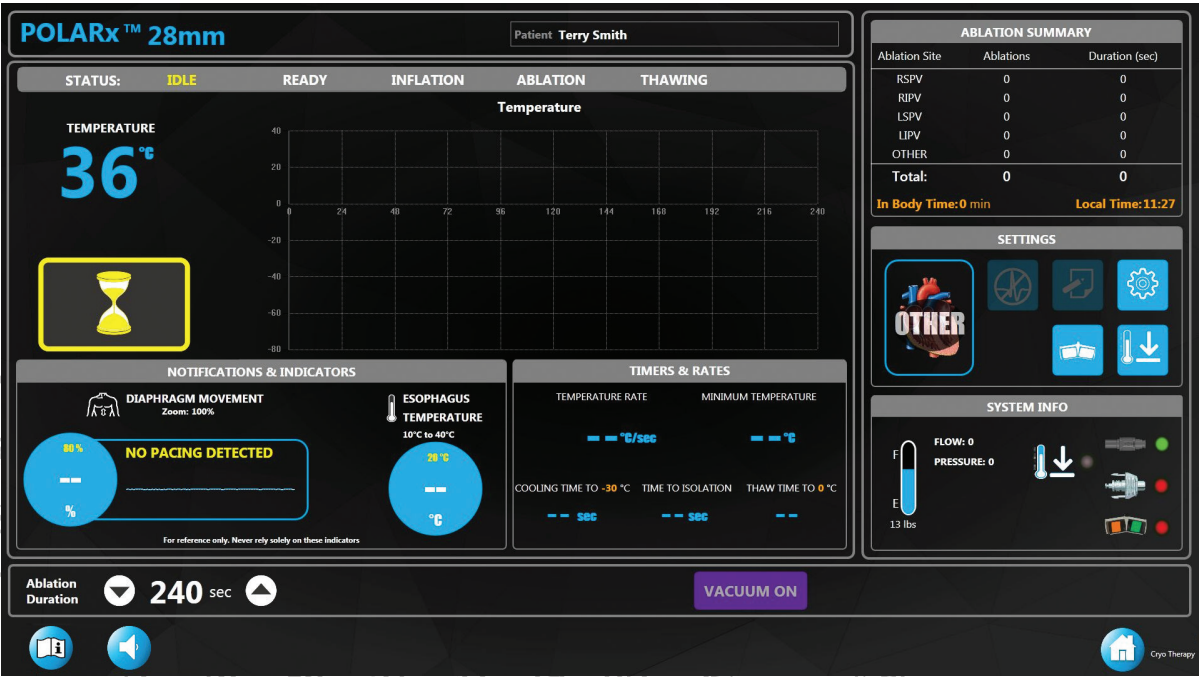

Figure 5. Therapy Screen—idle state—valid catheter connected.
2. Press the VACUUM ON button on the Therapy screen (Figure 5).